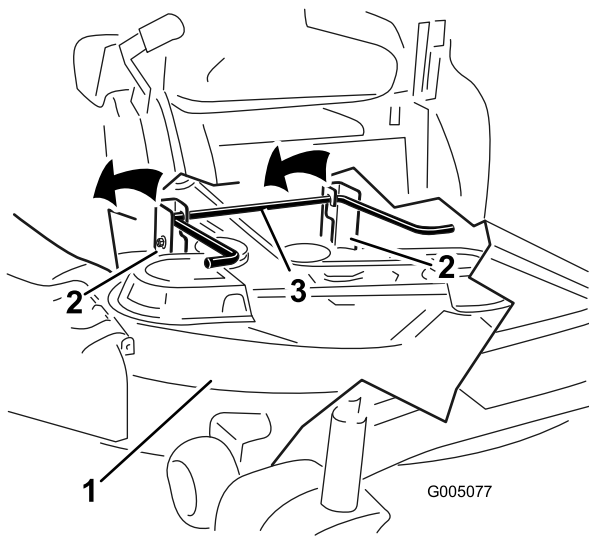
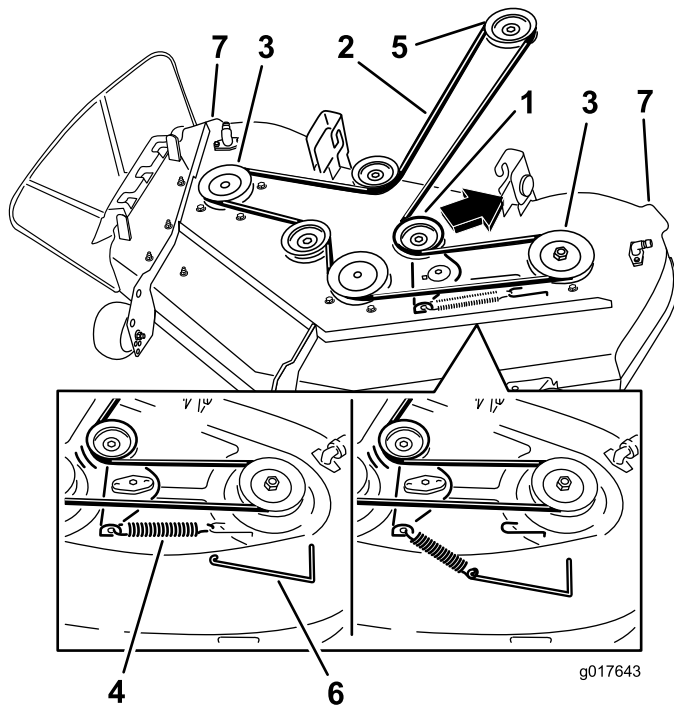

Figure 61
Figure 62
5. Using the mower deck handles, lift the mower deck and hanger brackets clear of the rear lift rod and lower the mower carefully to the ground (Figure 61 and Figure 62).
4. Using a spring removal tool, (Toro part no. 92-5771), remove the idler spring from the deck hook to remove tension on the idler pulley and roll the belt off of the pulleys (Figure 62).
5. Route the new belt around the engine pulley and mower pulleys (Figure 62).
6. Using a spring removal tool, (Toro part no. 92-5771), install the idler spring over the deck hook and placing tension on the idler pulley and mower belt (Figure 62).
5. Lift the rear of the mower deck and guide the hanger brackets over the rear lift rod (Figure 61).